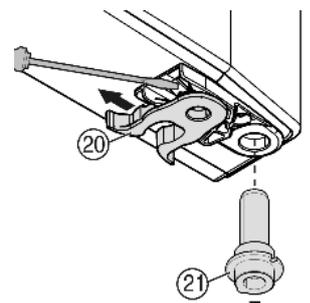

Fig. 9
- Transfer the spring clamp Fig. 9 (20): Depress the latch nose and pull the spring clamp off over it.
- Pull the bearing pin Fig. 9 (21) out of the door bush and transfer it to the opposite side together with the washer. The latch nose must point to the inner side of the door, the notch to the outer side.
- Swing the door in at the bottom and insert the bearing pin Fig. 9 (21) into the turn hinge. If necessary, turn the bearing pin until it snaps into place.